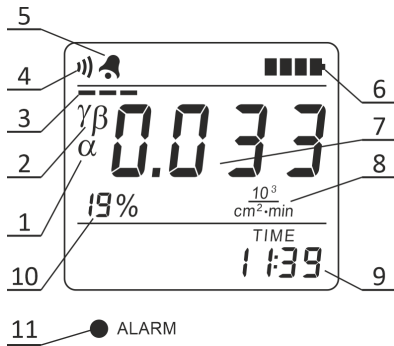

Figure 2.10 – LCD of the radiometer
2.3.3.8.8 When measuring intensity characteristics of alpha radiation, the LCD of the radiometer displays the following information (Figure 2.10):
- estimated limit of statistical deviations (10) of the measurement result (7);
- “ α ” symbol (1) - an indication of the measured radiation type;
- “ $\gamma\beta$ ” symbol (1) - is displayed if the measurement takes place without subtraction of gamma-beta radiation component;
- instantaneous value indicator (3);
- sound symbol (4) (if sound signaling of detected gamma quanta, beta and alpha particles is switched on);
- alarm clock symbol (5) (if the alarm clock is on);
- battery status symbol (6);
- measurement result (7);
- dimension of measurement result (8) $10^3/(\text{cm}^2 \cdot \text{min})$, cps or faded away, if the dimension is Bq/cm^2 ;
- current time (9).
If surface activity measurement is carried out in Bq/cm^2 , then “Act” characters are periodically displayed on the LCD of the radiometer and the dimension of the measurement result goes blank (8) (Figure 2.10).